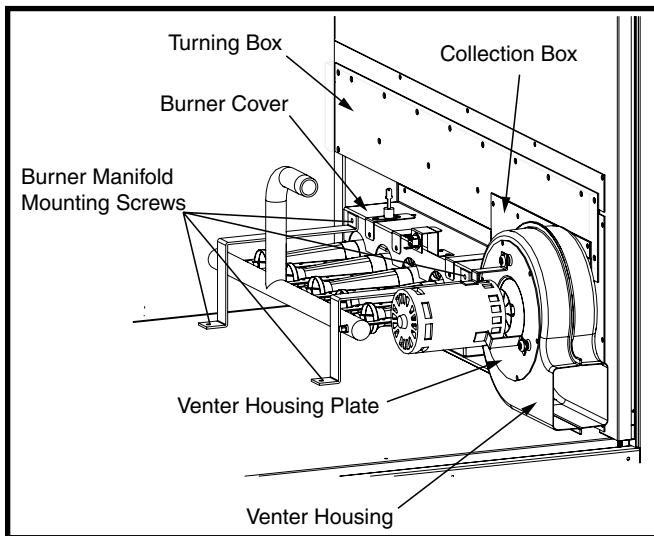

Figure 12. Burner Removal
1. Remove 6 screws securing the venter housing plate from the venter housing. See Figure 12 \(page 19\).